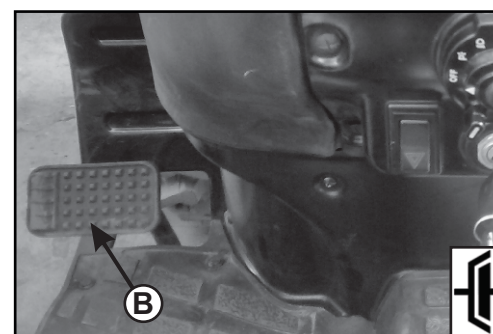

Fig. 4.8
4.8 Clutch Pedal (B), Fig. 4.8